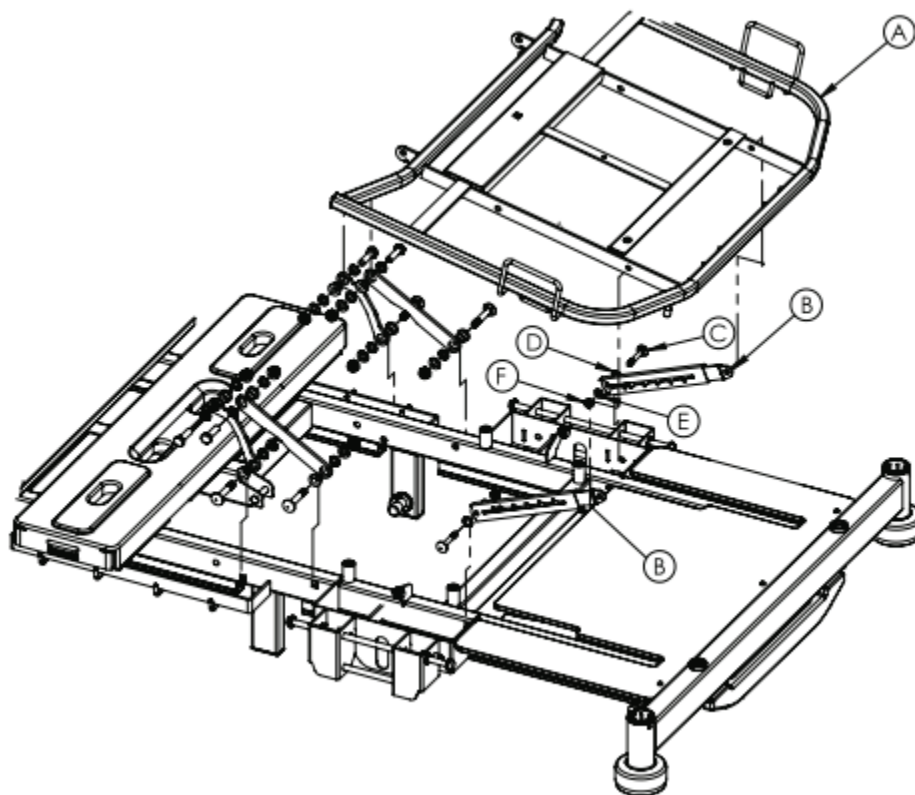

Figure 12 – Lower leg section locking mechanism
4. Raise the lower leg section (A) (Figure 12).
6. Using a 13 mm combination wrench and a 13 mm socket, remove and save the upper bolt and nut that secure the lower leg section locking mechanism (B) to the foot section weldment (Figure 12).
7. Using a 13 mm socket, remove and save the bolt (C), washers (D, E), and nut (F) that secures the bottom of the lower leg section locking mechanism to the litter frame (Figure 12).
8. Remove and discard the lower leg section locking mechanism (B) (Figure 12).